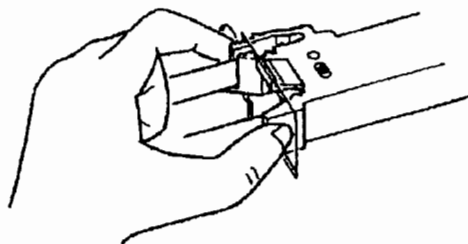

Figure 6.8
- (10) When replacing the ribbon cassette, pinch the cassette latchlevers, then pull the cassette out of the hole. (Figure. 6.8) Use the same procedure when installing new cassettes.